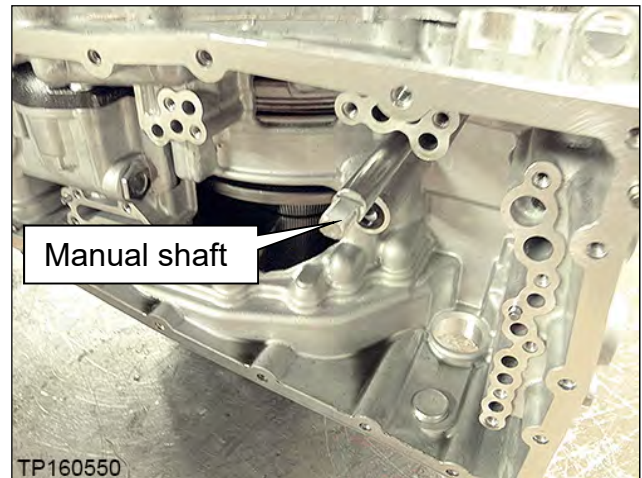

Figure 72
- Use plastic or wood blocks to support the CVT while rotating to prevent contact with the manual shaft and damage to the CVT (Figure 72). The manual shaft is longer than the oil pan mating surface.